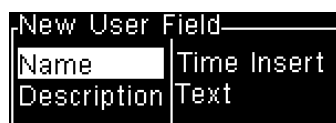

Figure 5-22: New User Field Window
- 4 Press Enter to open the New User Field window (Figure 5-22).